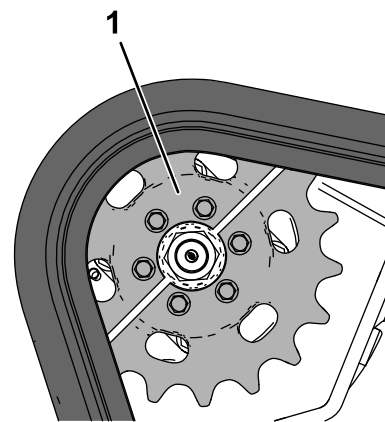

Figure 26
2. Park the machine on a level surface, ensuring that only 1 sprocket half is engaged with the track (Figure 26).